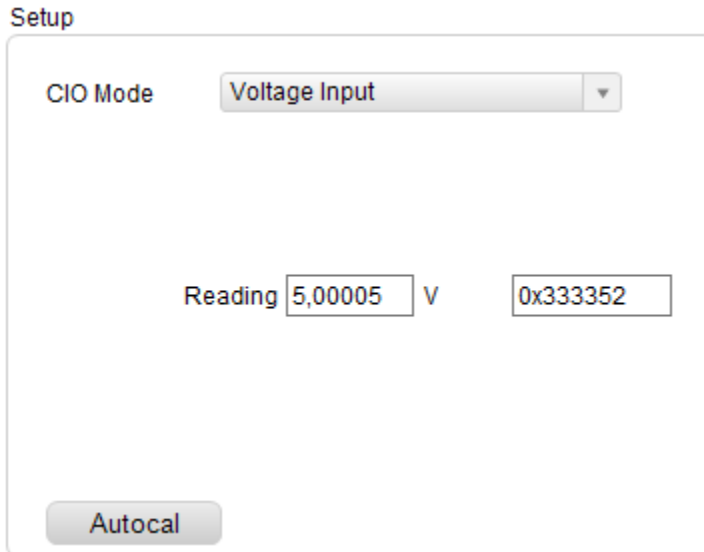

Figure 15. CIO Mode voltage input.
25. **Voltage Input:** In voltage input mode, the MAX22000 measures the voltage between J12's pin 1 and pin 4. Apply a voltage and observe that the correct voltage is shown for “Reading” (**Figure 15**).